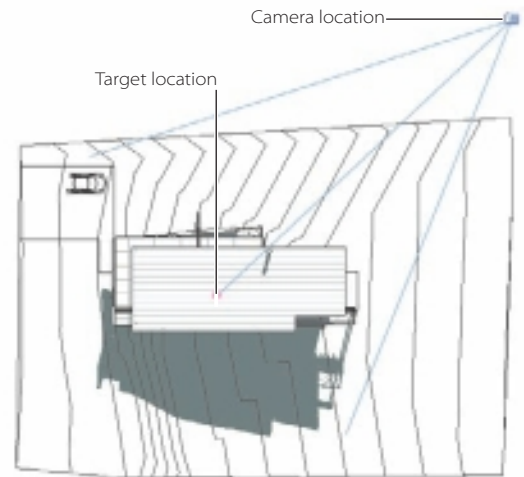

Figure 9.2
6. Using Figure 9.2 as a reference, click to place the camera location or where you would be standing. Then click to place the target location or where you would be looking.